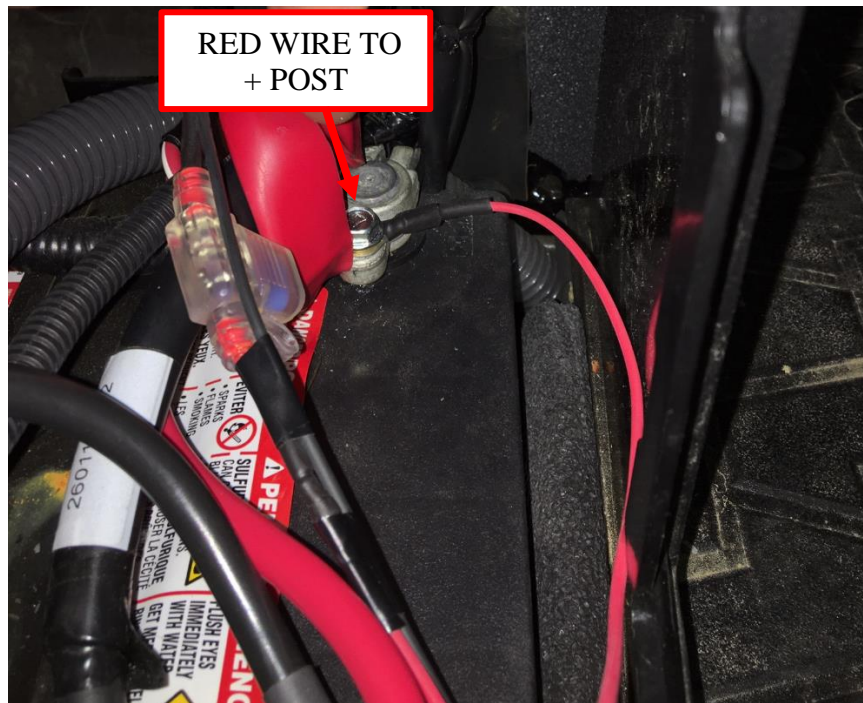

Figure 19: Red harness wire battery connection.
15. Connect the ring terminal on the **RED** wire of the Audio Mini harness to the + **POST** of the battery. See Figure 19.